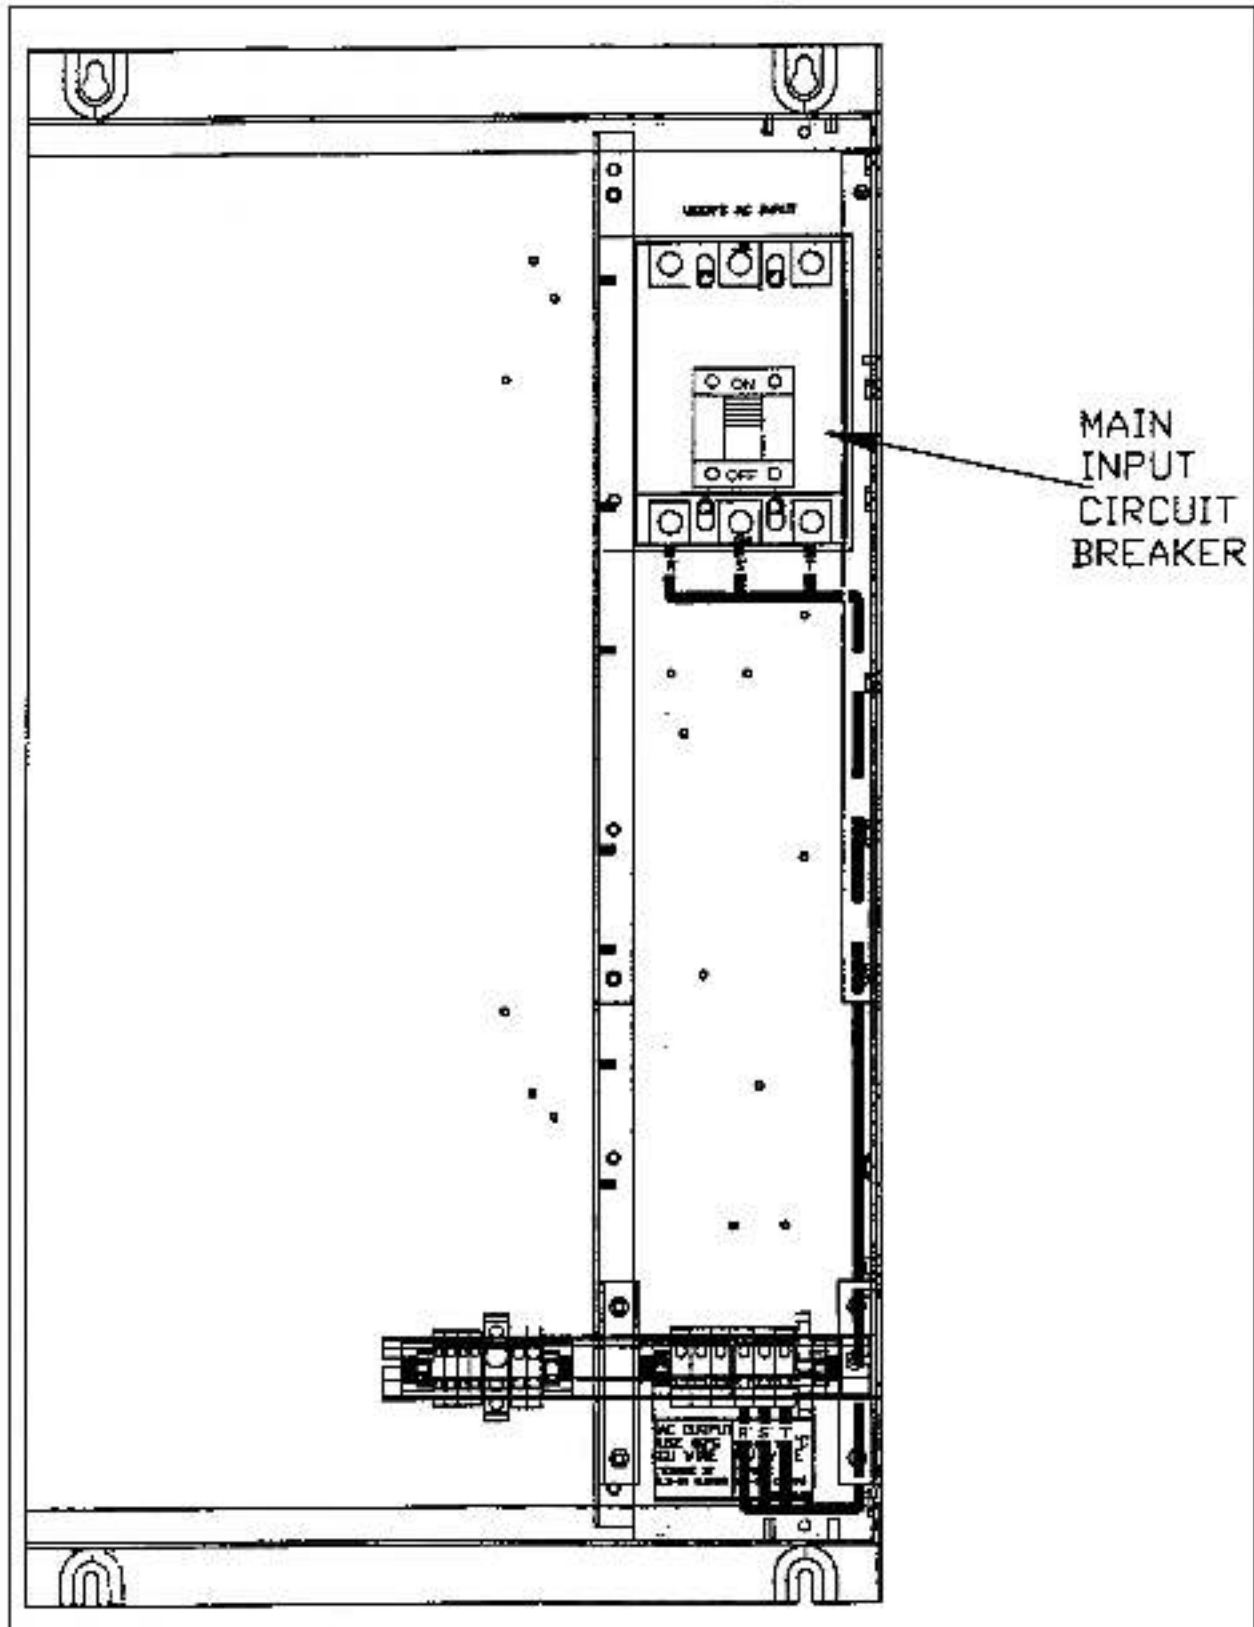

Figure 3. Circuit Breaker Mounting Location (1–20 HP GP2000 Mounted In an Expanded Cabinet Kit, 25–40 HP GP2000, or 1–50 HP VTAC V).
3. Mount the circuit breaker in the expanded cabinet bay. Refer to Figure 3 for mounting location. Use the four (4) M4x80 SHCS screws to mount the circuit breaker and line shield to the mounting bracket. Then attach the mounting bracket to the inner wall of the cabinet using the two (2) M5 nut/washers for 25–40 HP or M4 nut/washers for 7–20 HP.